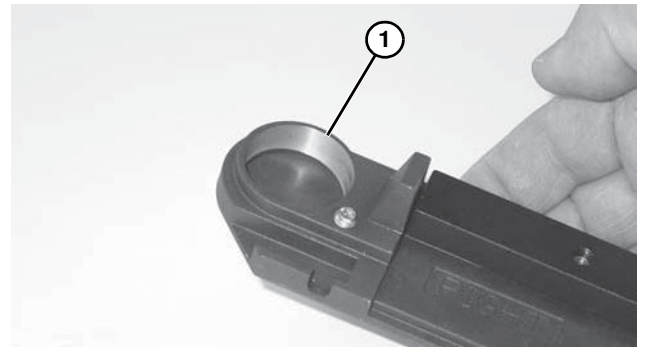

Figure 79
1. Inspect the headplates bearing seating surface (**Figure 79, item 1**). If they are worn or damaged, replace. See "Service Parts" on page 36.